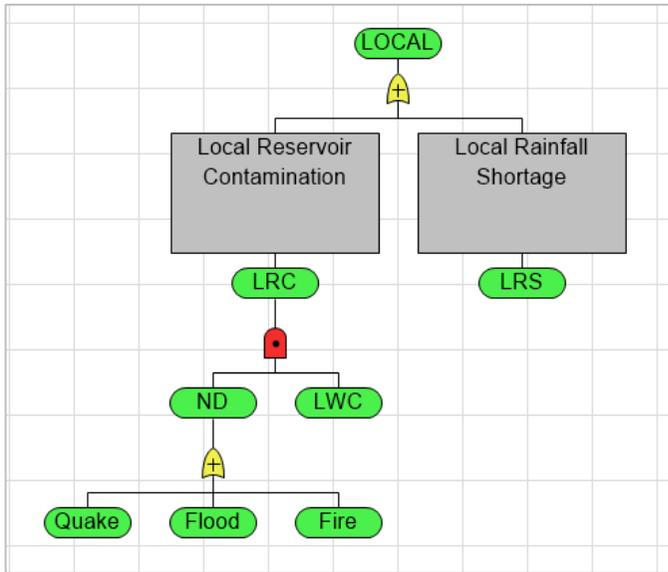

Figure 3-11. Complete Local Water Shortage Fault Tree
- ⇒ Click OK to close the dialog. See Figure 3-11.